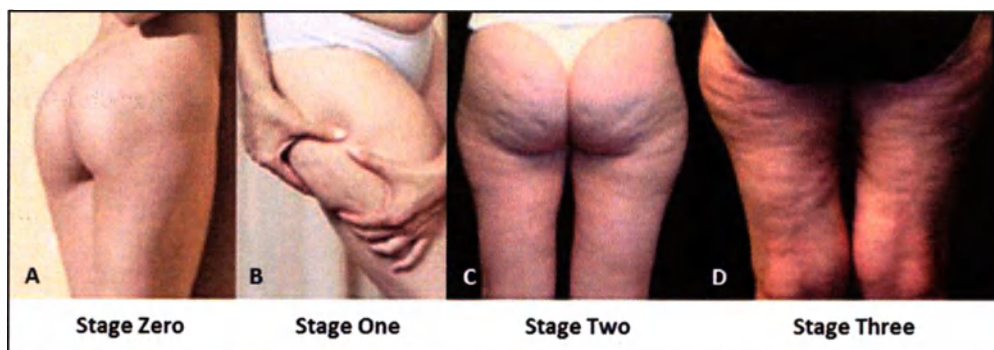

Figure 21: Illustration of cellulite stages (A- Stage Zero; B- Stage One; C- Stage Two; D- Stage Three)
1. **Stage Zero** – there is no alteration to the skin surface (no dimpling is seen on the skin when the patient is standing naked in front of the mirror). When the skin is pinched no orange peel effect is seen (see Figure 21-A).
2. **Stage One** – the skin of the affected area is smooth while the patient is standing or lying down (no dimpling is seen on the skin when the patient is standing), but undulations (bumps and lumps) on the skin surface can be seen on pinching the skin or during muscle contraction (see Figure 21-B).
3. **Stage Two** – the "orange peel" or "mattress" (dimpling) appearance is evident when standing, without the use of any manipulation (skin pinching or gluteus muscle contraction, see Figure 21-C).
4. **Stage Three** – presence of alteration described in stage two, plus presence of raised and depressed areas and nodules (dimpling that can be seen both when the patient is standing and lying down, see Figure 21-D).